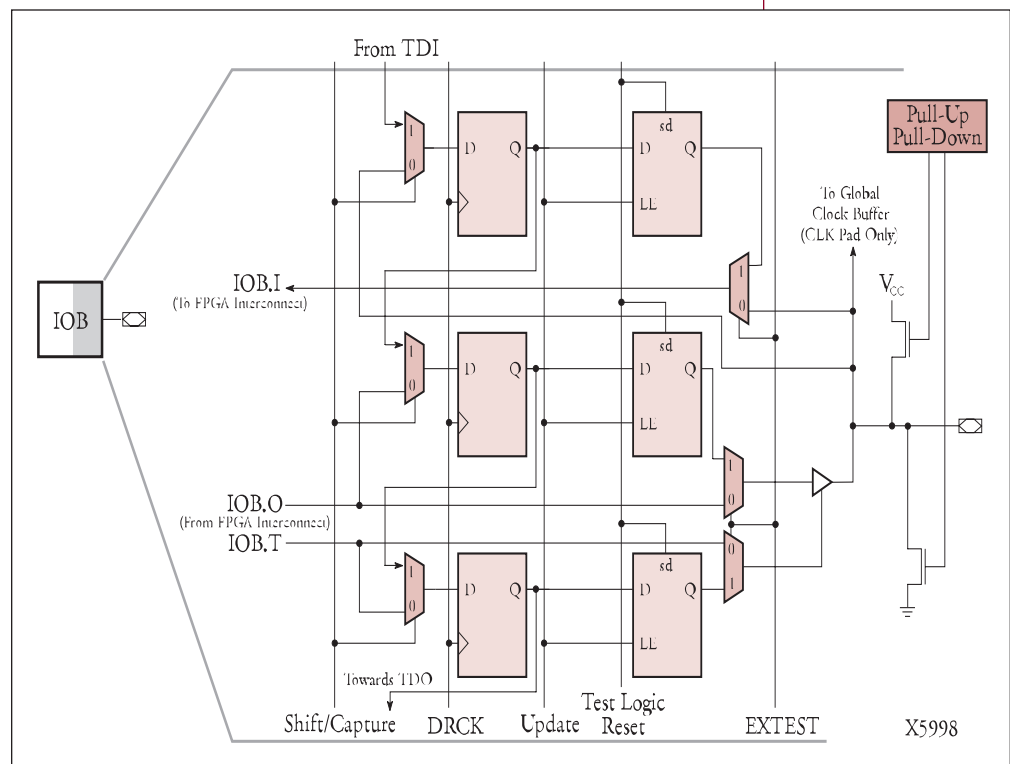

Figure 1 – Boundary Scan Logic
Figure 1 shows the Boundary Scan Logic in a typical IOB. The Boundary Scan Data register (DR) is a serial shift register implemented in the IOBs. Each IOB can be configured as an independently controlled bi-directional pin. Therefore, three data register bits are provided per IOB: for input data, output data, and 3-state control.